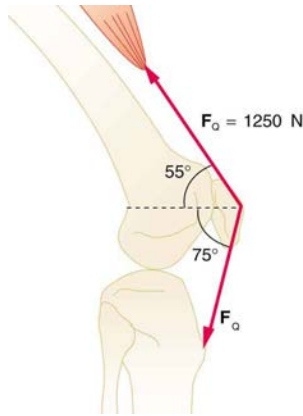

Figure 9.38 The knee joint works like a hinge to bend and straighten the lower leg. It permits a person to sit, stand, and pivot.
28. The upper leg muscle (quadriceps) exerts a force of 1250 N, which is carried by a tendon over the kneecap (the patella) at the angles shown in **Figure 9.38**. Find the direction and magnitude of the force exerted by the kneecap on the upper leg bone (the femur).